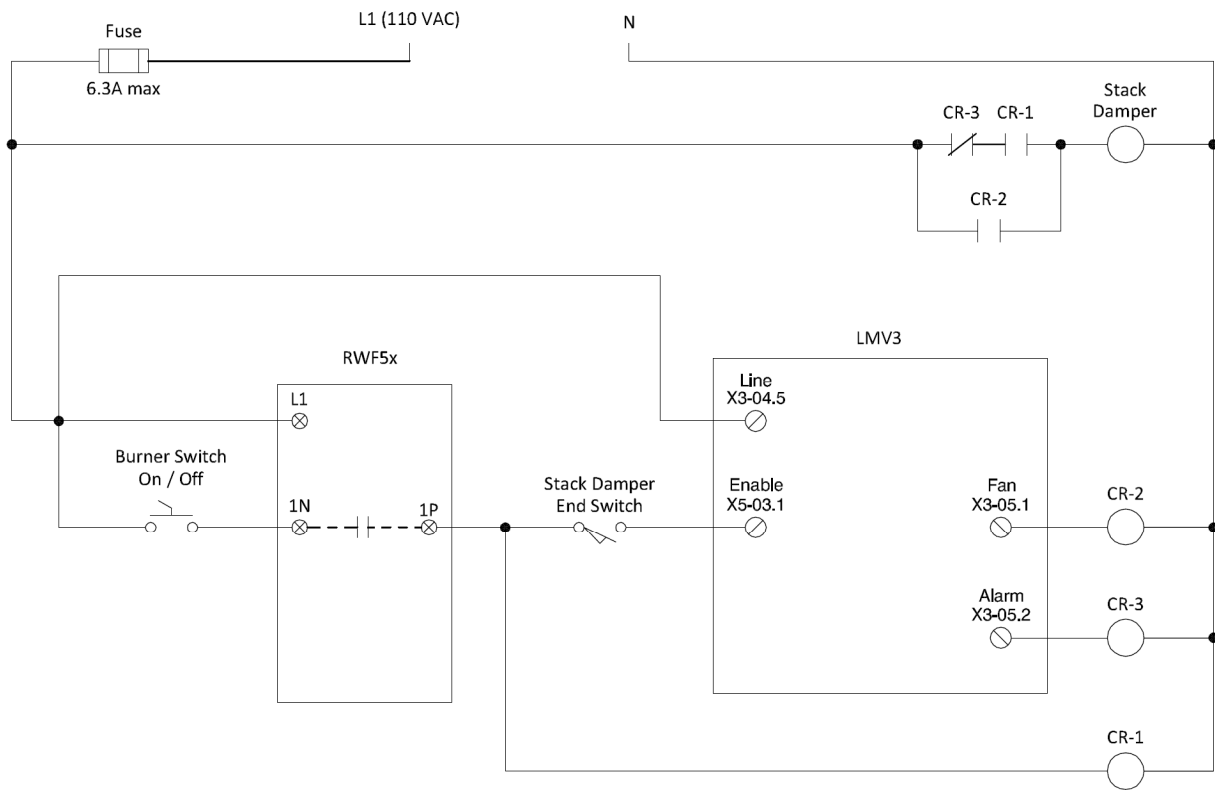

Figure 13: LMV3 Stack Damper Wiring
2. Wire the LMV3, RWF5x load controller, and stack damper as shown in Figure 13.